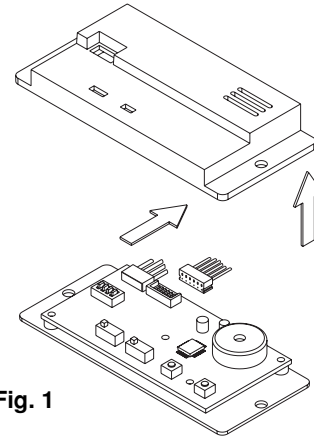

Fig. 1
- (1) Open the operation controller and disconnect the receiver wire (6P - CN2) provided with it. (fig. 1)